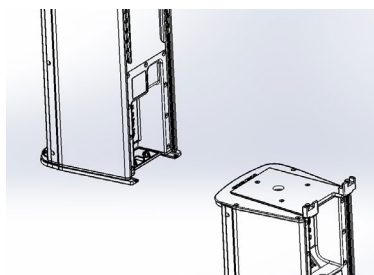

Figure 11 - Attach AC6 columns
- Slowly slide into plate until an audible click is heard. (Figure 11)